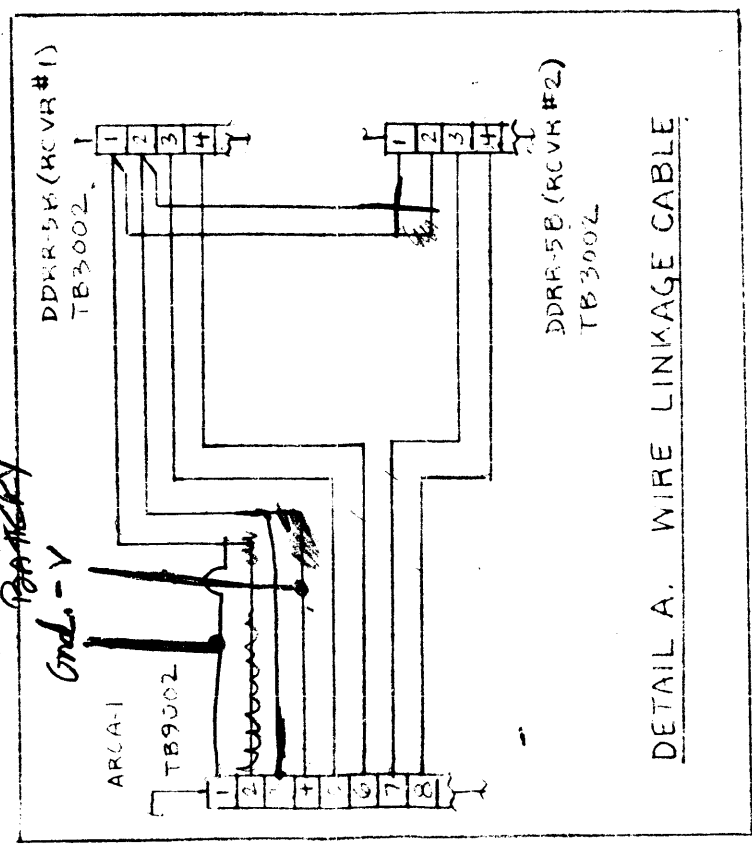

FIGURE 2-2. CONNECTION DIAGRAM, EXTERNAL EQUIPMENT TO AN/FRR-72
(1) GENERAL. - Connect external equipment as described in paragraphs 2-2 d (2) through 2-2 d (6) and Figure 2-2.
(2) ANTENNA. - CP3001 in the rear panel of each DDRR-5B rack is for the connection of the antenna to that receiver. A TMC # mating plug is included in each DDRR-5B shipment. For space diversity, connect each DDRR-5B to an antenna. For frequency diversity, connect both DDRR-5B Receivers to the same antenna, using TMC # Tee Adaptor supplied in the shipment.
(3) AUDIO LOADS. - Use terminals 7 through 13 on terminal block TB 3001 on the rear rack panel of each DDRR-5B for the connection of the 2-channel audio loads (CHANNELS A and B) for each receiver system. Use terminals 5 through 16 on terminal blocks TB8501 and TB 8502 on the rear rack panel of the MSG(C)-1 for the connection of the 4-channel audio loads (A2, A1, B1, B2) for the two receiver systems, as marked on the panel.
(4) REMOTE TUNING INPUT.- Connect remote tuning signal source at terminals 1 and 2 of TB3002 on rear rack panel of each DDRR-5B. Jumper connections between the two DDRR-5B racks as shown in Figure 2-2.
(5) REMOTE TUNING READBACK OUTPUT. - Connect remote tuning readback line for each receiver system at terminals 3 and 4 on TB3002 terminal block on rear rack panel of each DDRR-5B. Bring lines out separately as shown in Figure 2-2.
(6) INPUT POWER. - Connect 115 VAC, 50/60 cps, single phase line voltage to the two DDRR-5B Receivers and MSG(C)-1 System as described in the Technical Manuals for these units.
(1) GENERAL. - Connect external equipment as described in paragraphs 2-3c(2) through 2-3c(5) and Figure 2-2.
(2) TUNING SIGNAL OUTPUT. - Make tuning signal output connection at TB9002 terminal block on the rear of the console as shown in Figure 2-2.
(3) READBACK SIGNAL INPUTS. - Make readback signal input connections at TB9002 terminal block on the rear of the console as shown in Figure 2-2.
(4) TAPE TIMER. - If tape timer is to be used (to send a series of pre-programmed messages on tape at timed intervals), plug in timer at TIMER jack on RTPA-1 Electronic Programmer front panel. TMC #            plug is the mating connector supplied in shipment.
(5) INPUT POWER. - Connect 115 VAC, single phase, 60 cps line voltage at FL9001 Filter as described in the ARCA-1 Technical Manual. This also presents additional auxiliary line voltage at the two UTILITY outlets on the front panel of Model DCP-2 Power Panel.